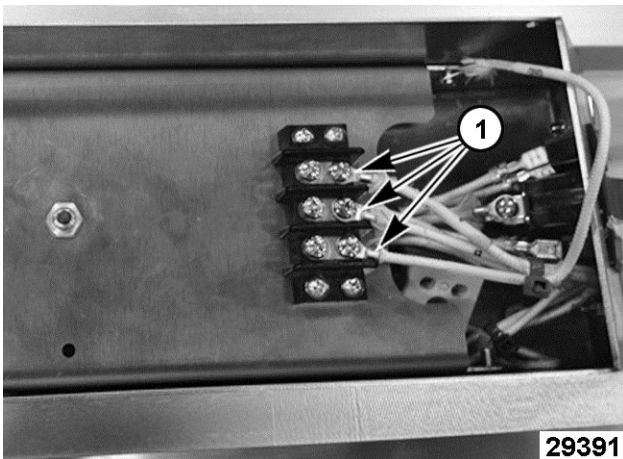

Fig. 39
- B. Note heating element wire locations (1, Fig. 39) and disconnect from terminal strip.